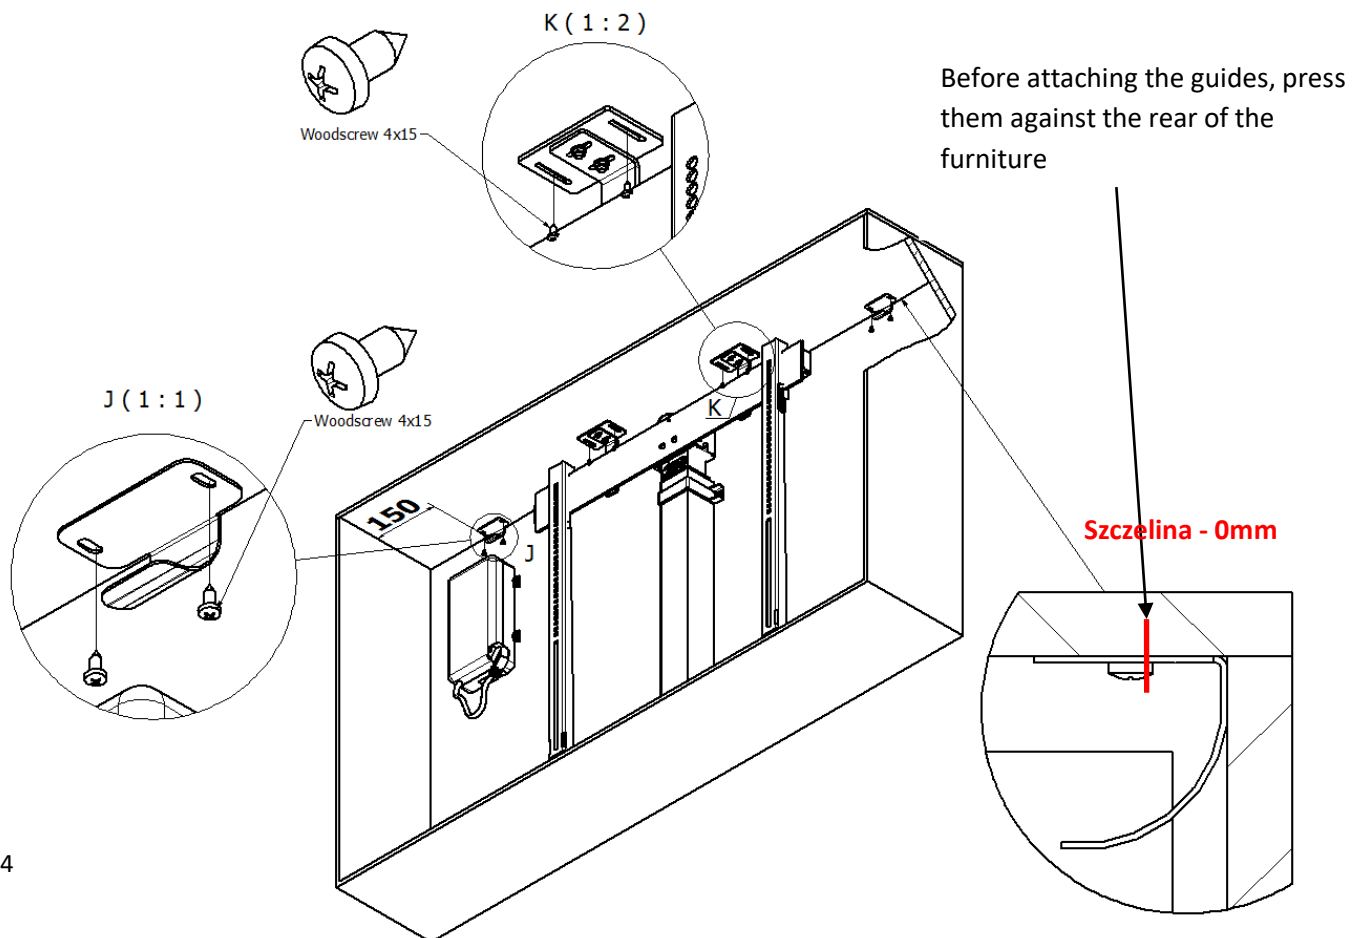

Fig.4
2. Using wood screws, attach the lift to the furniture in accordance with Fig.4